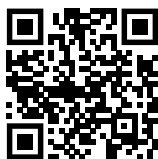

Fig. 168
- ▶ Otevřete Liebherr SmartMonitoring Dashboard. (viz Fig. 168)